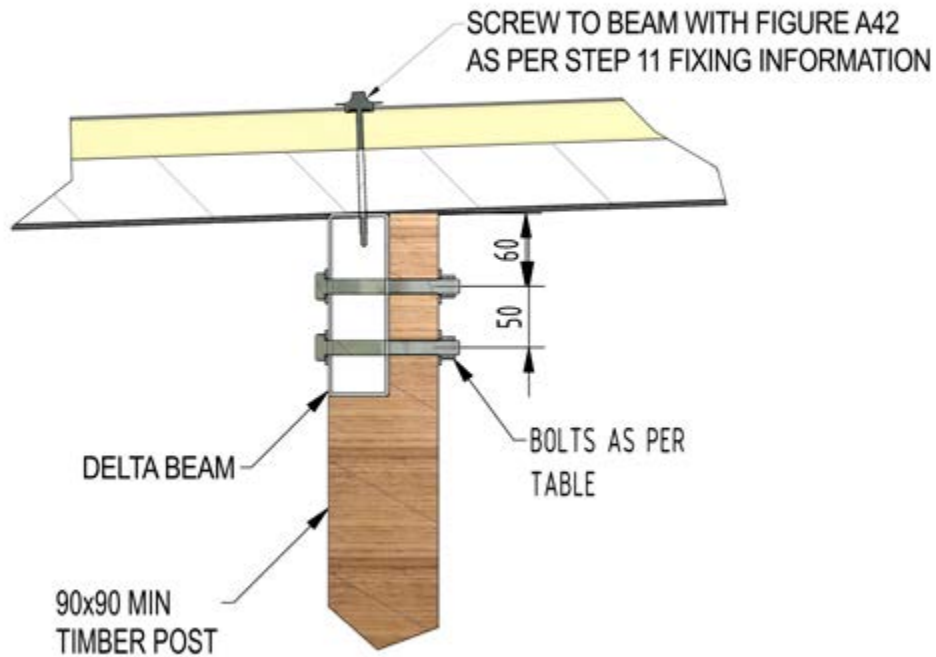

Figure A22
**Timber Post to DeltaBeam (see Figure A22)**